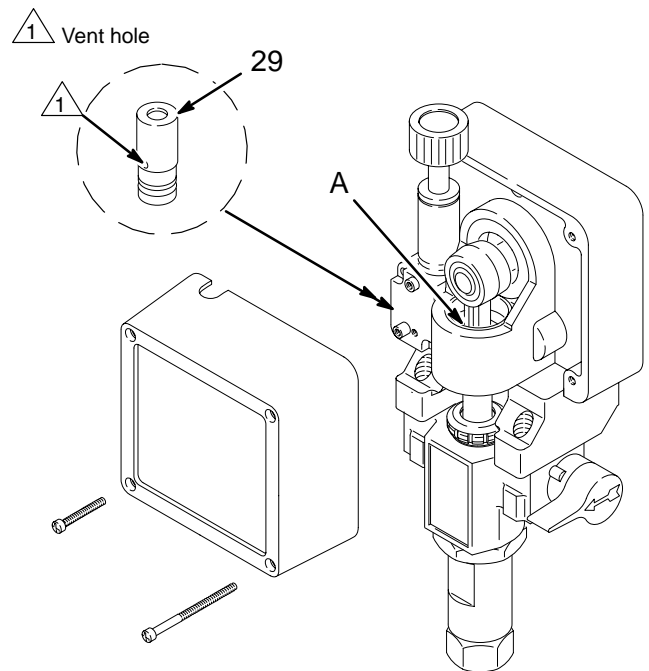

Fig. 10
3. **Periodically clean paint residue from the pressure transducer (29) vent hole area.** See Fig. 10. Replace the transducer when leakage is excessive. See page 30.
4. **Lubricate the bearing housing** after every 100 hours of operation. Remove the front cover. Fill the bearing housing cavity (A) with SAE 10 non-detergent oil. See Fig. 10.